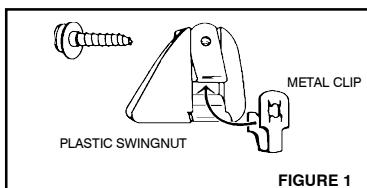

FIGURE 1
STEP 1 (FIGURE 1)
Remove the 8 factory installed screws from the truck tailgate (marked "X" in FIGURE 1, Section 2). Save for reinstallation.
Center the tailgate cover (FIGURE 1) on truck tailgate. Tip tailgate cover on angle and slip upper edge under truck tailgate rail cover. Line up pre-drilled holes in tailgate cover with the 8 holes in the truck tailgate.
1. Assemble "Liner-Lok™" fasteners by sliding metal clip onto plastic swingnut (see FIGURE 1).